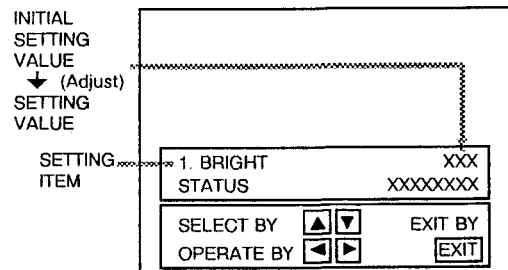
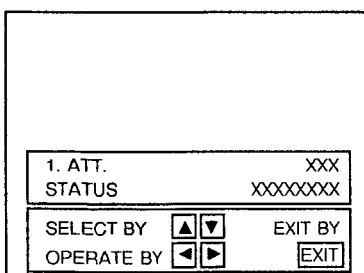

Fig. 3 PICTURE MODE
Fig. 4 SOUND MODE
- 3) If the UP / DOWN KEY is pressed, the PICTURE MODE screen shown in Fig.3 or the SOUND MODE screen shown in Fig.4 is displayed and the PICTURE or SOUND setting can be performed.